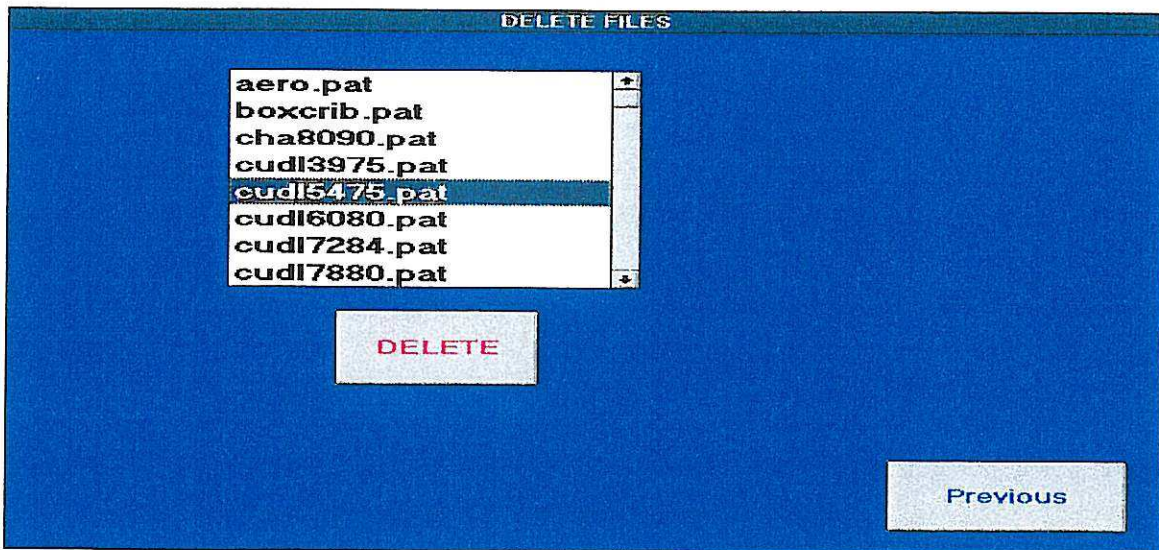

Figure 4.18
- A. Press the "Delete Files" key and a delete files screen will appear. See Figure 4.18.